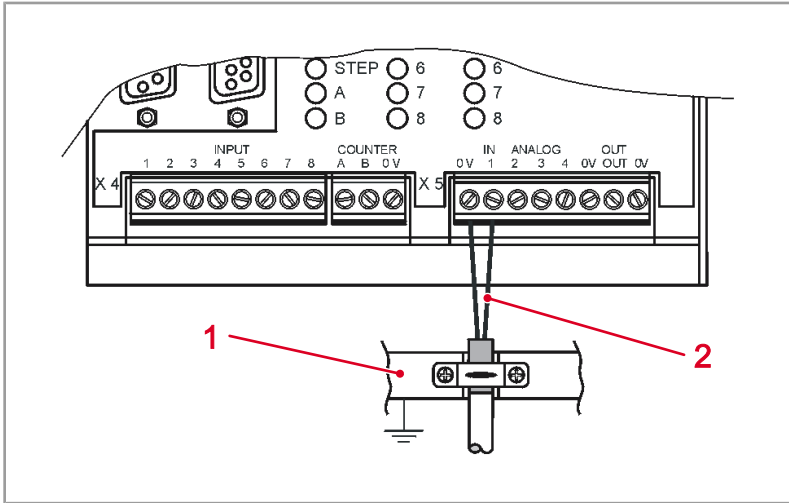

Fig. 2: Shield with a short unshielded cable
- If it is not possible to connect the shield to the connector, then the shield must be connected with ground with low-impedance and with the greatest possible surface area. Grounding must take place in such a way that the unshielded part of the cable is as short as possible. (See figure 2).